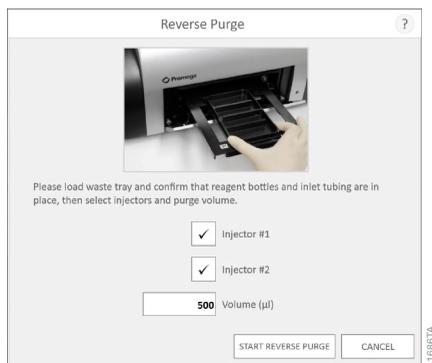

Figure 122. Injector Purge function.
2. Tap the **Start Reverse Purge** button (Figure 122).